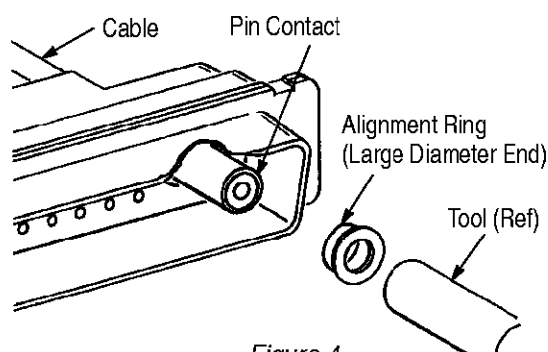

Figure 4
7. After the pin contact is inserted into the connector, position the alignment ring (large diameter end first) over the pin contact. Using a hollow-tubed tool with an outside diameter of 5.08 mm [.200 in.], push the alignment ring into the housing contact cavity until the ring bottoms. See Figure 4.